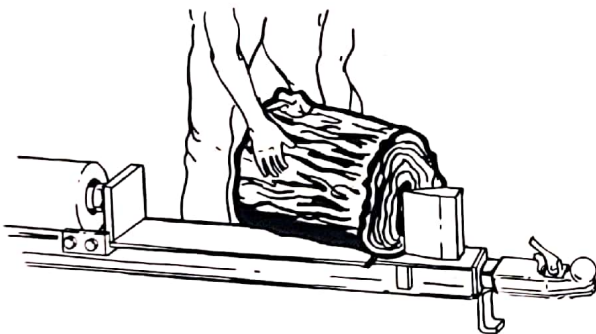

Figure 12
**Step 4)** Place the log on the beam between the wedge and plunger block. Center one end of the log with the wedge and the other end with the plunger block. (Fig. 12)